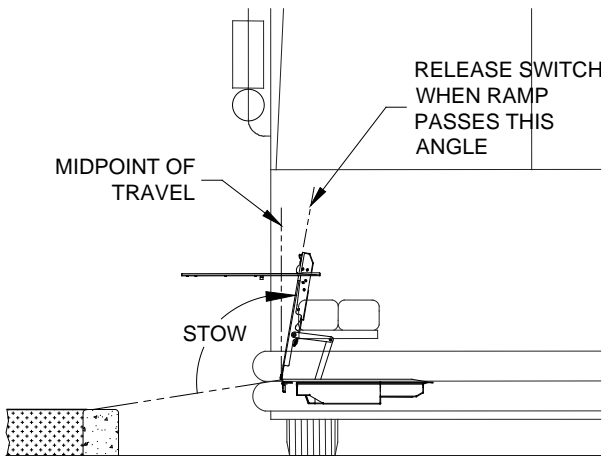

FIGURE 3-3: RAMP MIDPOINT DURING STOW
- 1) Refer to **Figure 3-3**. Move control switch to STOW position. Hold switch in STOW until ramp has **passed** 3/4 of its travel, then release switch.